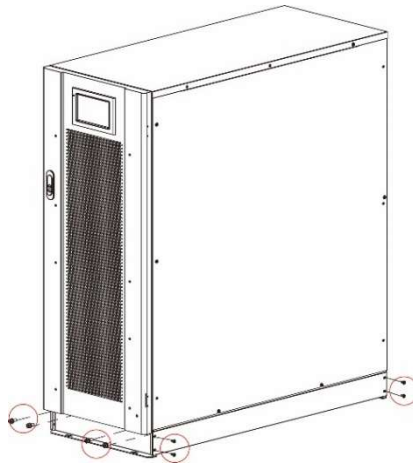

Fig. 3-8 Fix the tightening components on the case
Step 6: secure the components to the case with 8 x M6 and 4 x M12 screws, as shown in Fig. 3-8.